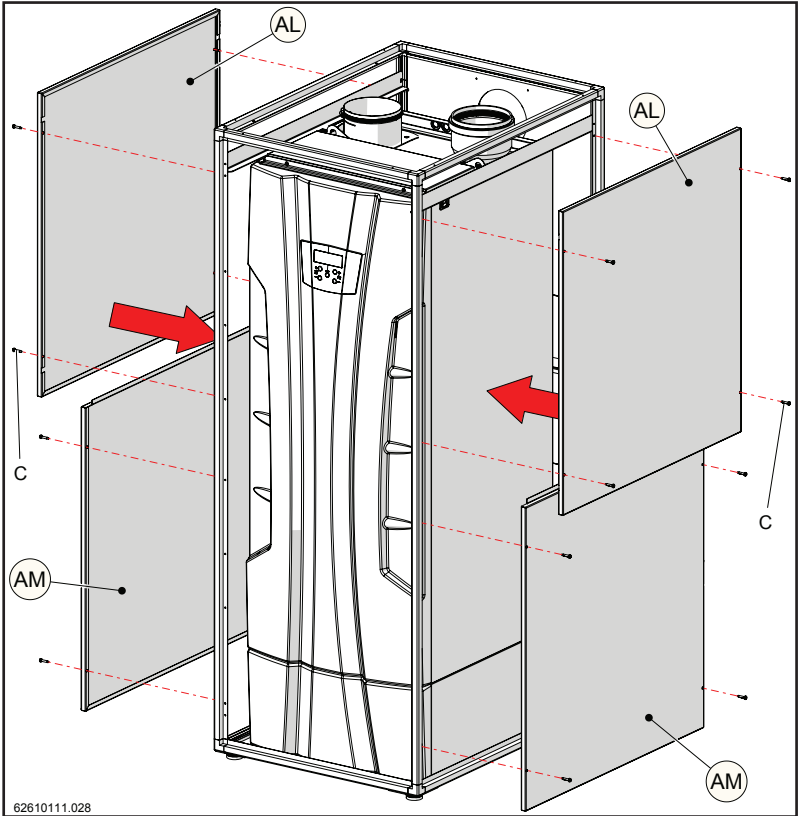

Figure 15-62
- 14.- Put on the side covers (AM) (first) and (AL) (next), attaching them to the structure with screws "C" (figure 15-62).